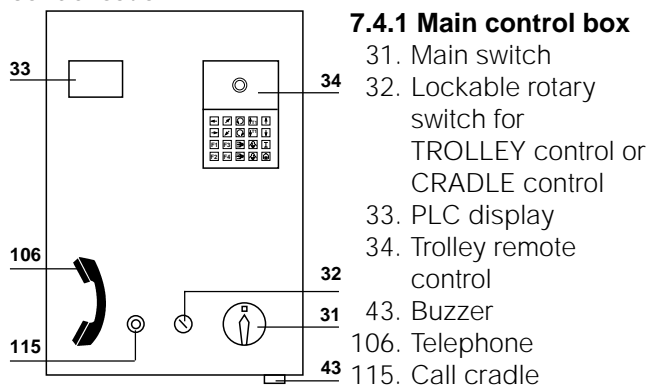

Fig. 9 - Main control box and trolley remote control
- 1 control panel (Fig. 9) on the trolley for switching to work phase and for backup operations in the event of failure of the main panel.